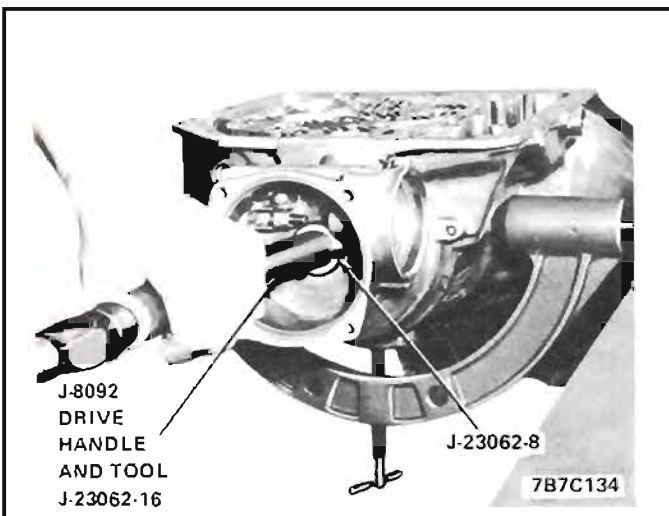

Figure 127 Case Bushing Removal
1. Inspect case bushing for nicks, scoring or excessive wear. If damaged, remove as follows: Assemble Tool J-23062-16 on Drive Handle J-8092. Place Tool J-23062-8 into back of case, insert assembly of drive handle J-8092 and Tool J-23062-16 into Tool J-23062-8 and remove bushing. *See Figure 127.*